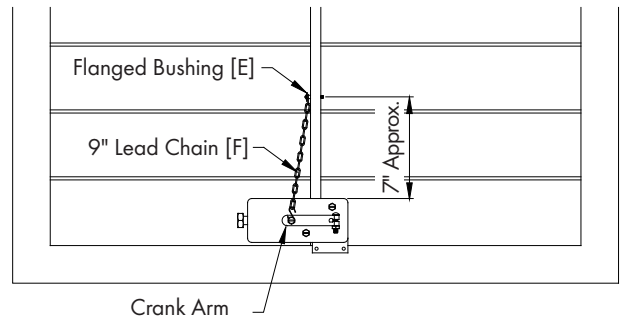

Figure 8
Cut a 9" long piece of Chain [F] and connect between Bushing [E] on the Connecting Bar and the Crank Arm using (1) 'S' Hook [D] on each end. See Figure 8. Rotate the Crank Arm counterclock wise to the stop screw and adjust the Lead Chain until the Shutter Blades are fully open.